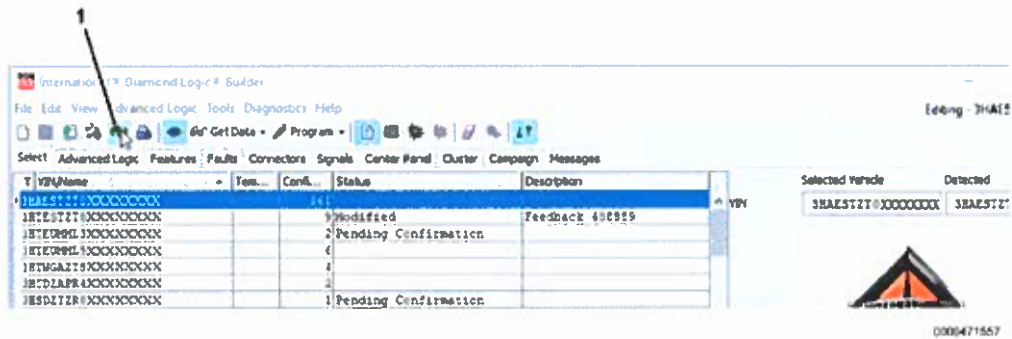

Figure 1. Update All Icon
11. Click on **UPDATE ALL** icon (Figure 1, Item 1) in toolbar. DLB updates latest module versions located in kernel column.